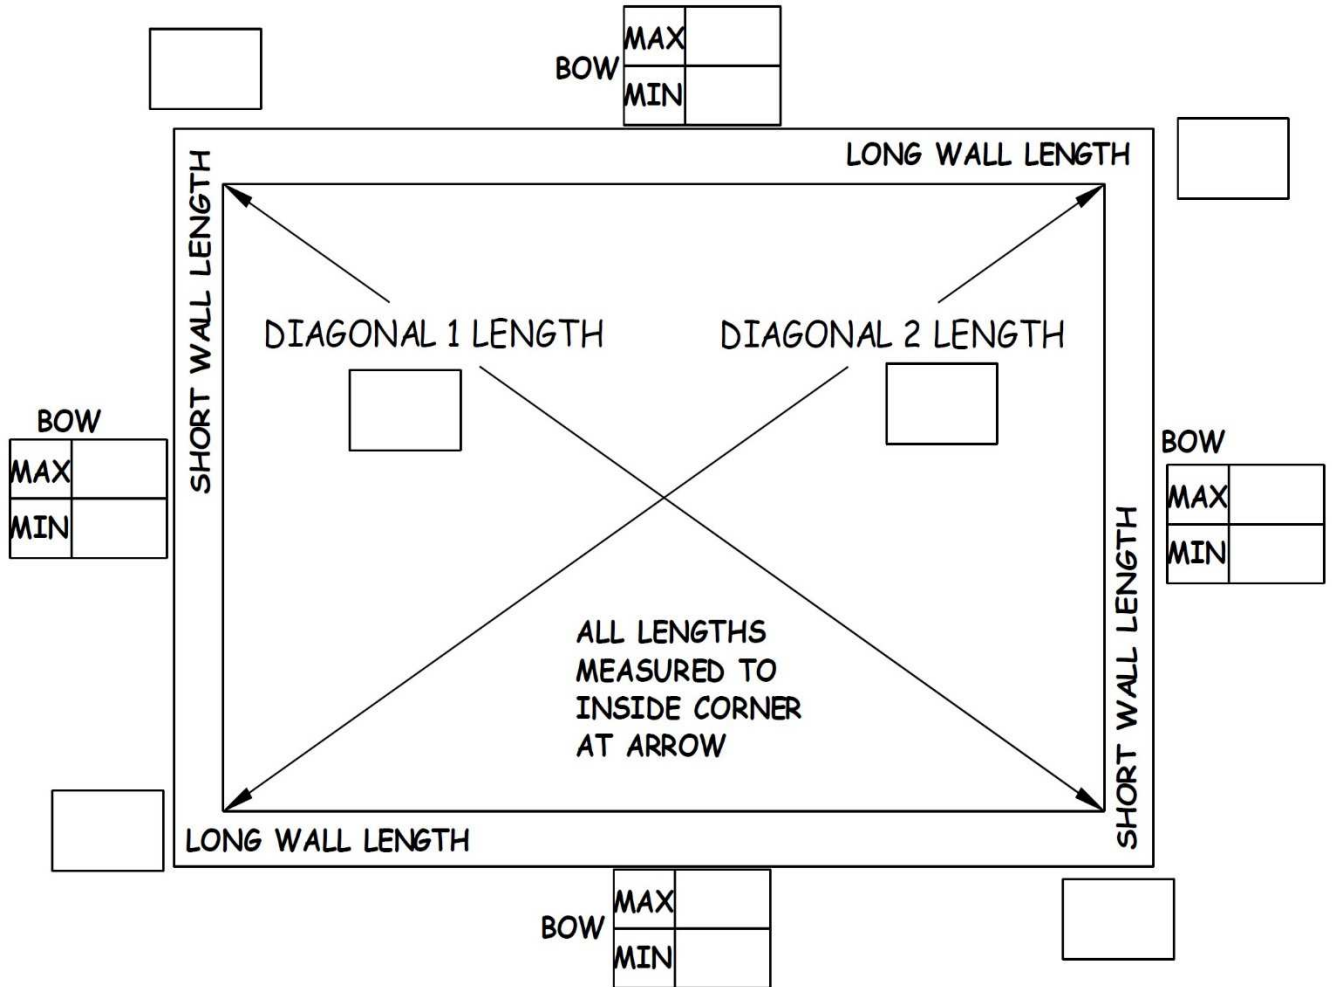

Figure 3-1. Wall Layout for Rectangular Deck Worksheet.
2. **Create a Rectangle.** Remove the Wall Layout for Rectangular Deck Worksheet (Figure 3-1 on the next page) from this manual. With a long steel tape, "burn a foot" and measure the lengths between the initial corner marks from Step 1 above of the opposite walls at each end (see Figure 3-1). Record the measurements on the Wall Layout Worksheet. If opposite wall lengths differ by ⅛" OR MORE, adjust the corner marks to equalize the lengths by adding one-half the difference at each end of the shorter wall.